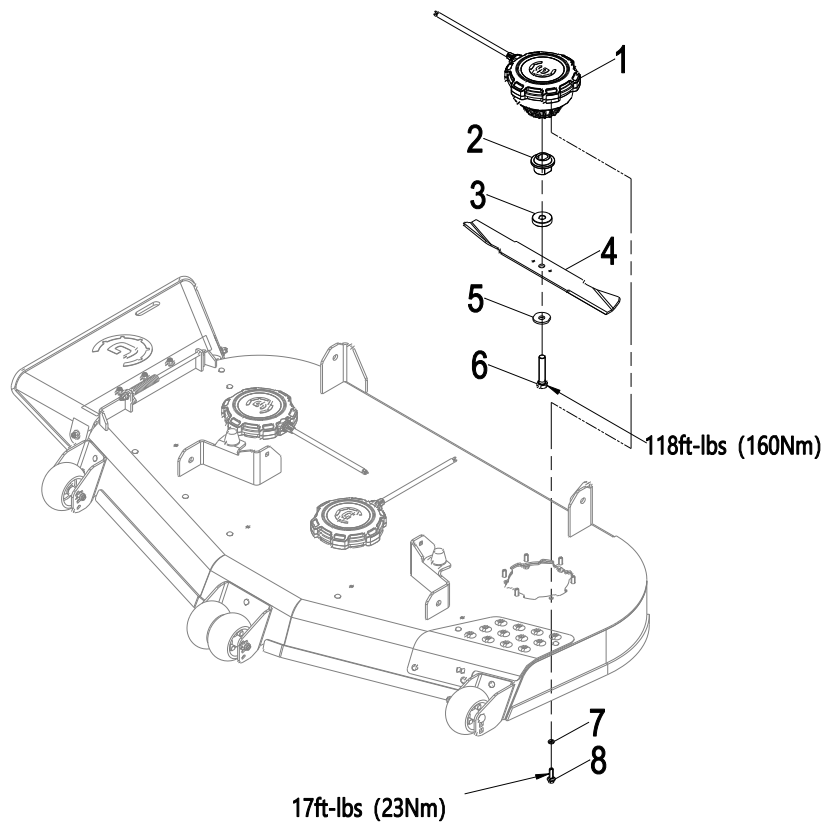

Fig. 1
1. Put the blade washer (5), blade (4), spacer (3) and blade holder (2) on the bolt (6) in the order shown in the Fig. 1 and manually screw the bolt (6) into the threaded hole of the motor central shaft.
2. With protective gloves on, snap the end of the blade (4) with a wooden block and tighten the bolt (6) with a 24 mm socket by rotating clockwise, with a fastening torque of 114-118 Ft-lb (155-160 Nm).
2. Rotate the fastening nut (10) counterclockwise and make sure the blade power cord tail clip (9) and motor end tail clip are separated.
4. Refer to Fig. 1, using a hoisting tool, hoist the front end of the deck to a certain angle.
6. Use a 13 mm socket wrench to loosen the bolt (8) by rotating counterclockwise.
7. Remove the bolt (8) and the spring washer (7) altogether. Each motor is fixed with six sets of such bolts.
8. After removing the six sets of bolts (7, 8) for individual motor, remove the blade motor (1) from the deck.